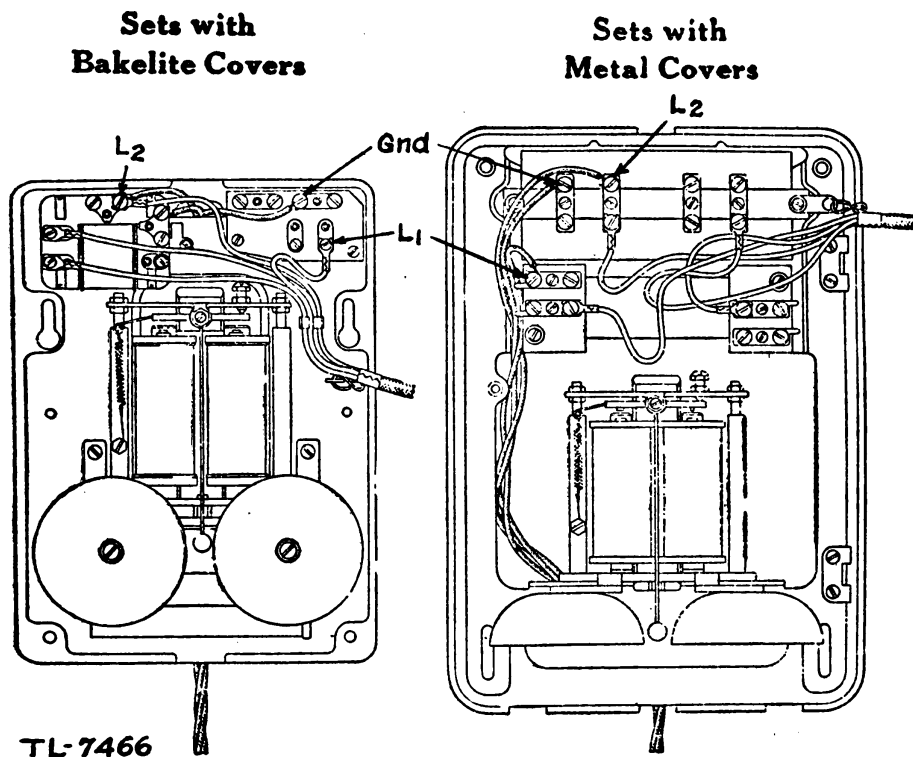

Figure 100. Cord terminated in a subscriber set.
*b.* **TERMINATING WIRE.** (1) Pull wire tight and cut off each conductor 3 inches beyond the far end of its associated terminal, allowing 2 inches of slack in the wire inside the set, and 1 inch for connecting conductors to associated terminals. Skin the insulation off the end of each conductor and place the bared end three-quarters of the way around the screw, in the direction that the screw tightens. Insulation should be  $\frac{1}{8}$  inch from the edge of the screwhead.
(2) When terminating cords in subscriber sets which are equipped with screw fasteners, fasten the stay hook on the cord to the screw eye or eyelet. (See fig. 100.)
(3) When terminating cords are provided with tie-strings, tie the tie-string to the screw eye provided in the telephone set. If a small eyelet is provided in the telephone set for use with cords with stay hooks, pass the tie-string once through the eyelet and tie the tie-string to the end of the cord with several cable-form stitches.
(4) When terminating cords with tie-strings in metal subscriber sets without screw eyes or eyelets for securing cords, tie the tie-string around the terminal screw and to the end of the cord with several cable-form stitches placed close together.
(5) In case it is difficult to fasten cords with any of the methods described above, fasten the cord in the subscriber set so that—
(6) Figure 100 shows typical examples of a cord terminated in a subscriber set.